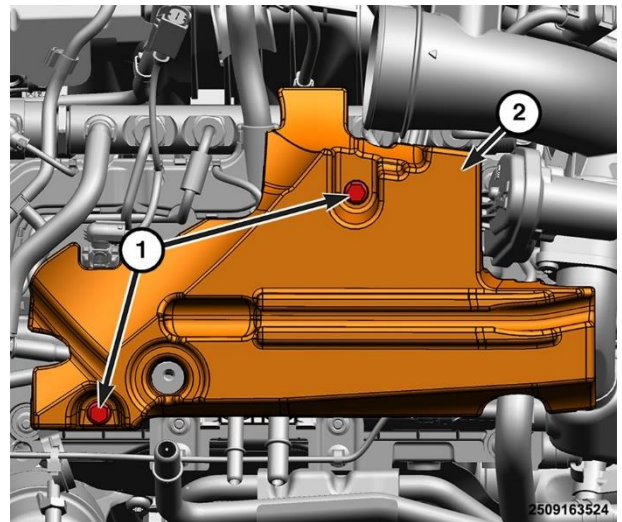

Figure 113– Fuel Rail Cover
- 34. Remove the left fuel rail cover bolts (1) and the left fuel rail cover (2) (Figure 113).